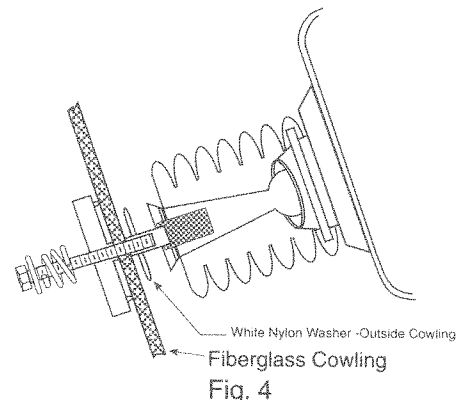

Fig. 4
- C** From the outside of the cowling place the white nylon washer (M12-8) and mirror head mounting base onto the mounting plate shaft. From the inside of the cowling insert the stainless Phillips/hex-screw with the washer and tension spring in place into the mounting plate and mirror head mounting base and tighten. (See fig. 4)